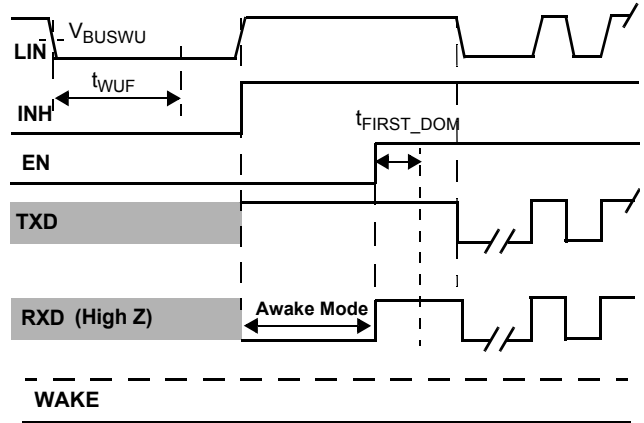
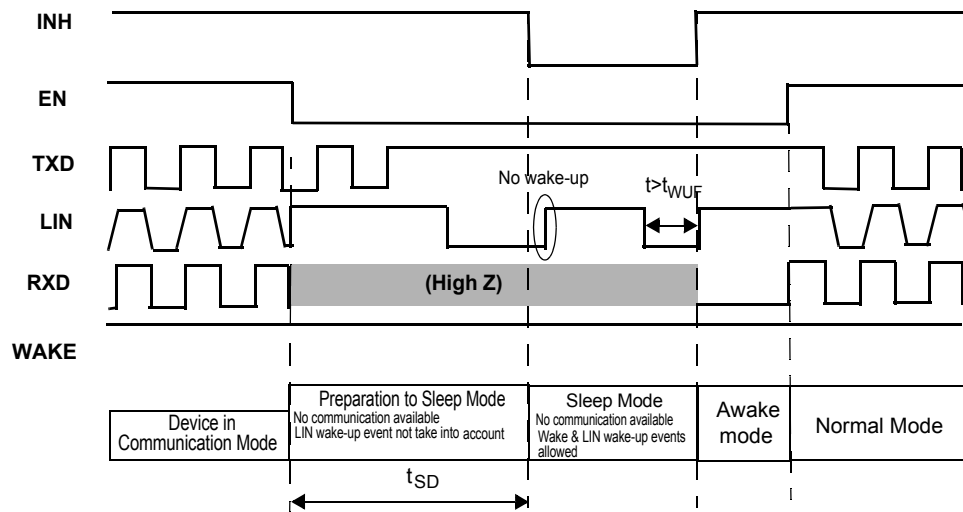

Figure 16. LIN Bus Wake-up with TXD High
Figure 20. LIN Bus Wake-up with LIN bus in Dominant During the Preparation to Sleep Mode
24. See Figure 16, 19, and Figure 20